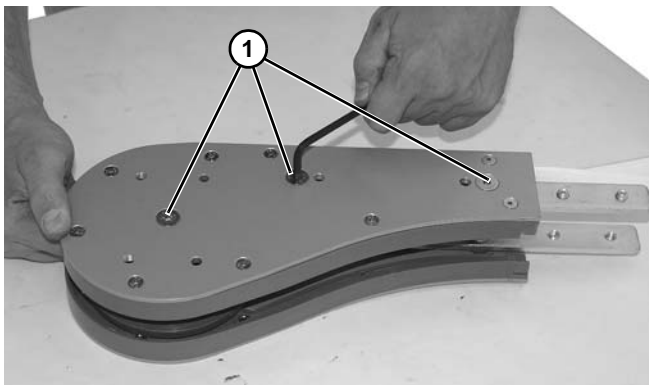

Figure 45
1. Remove three flat head screws (Figure 45, item 1).